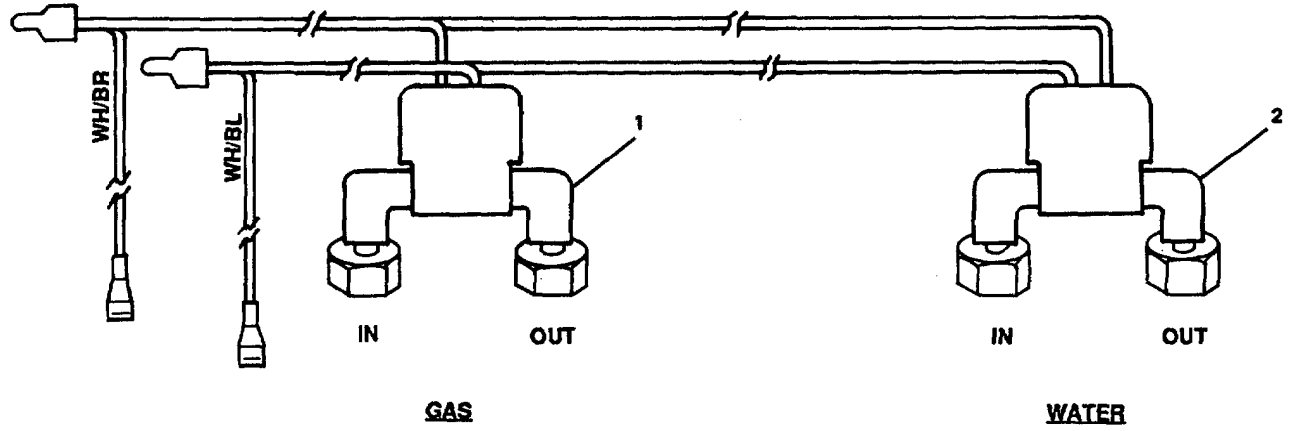

FIGURE 3-56. Gas and Water Solenoid Valves.
- b. Remove access door (7) and panel (8).
- c. Remove cover (5) and panel (6).
- d. Remove panel (10).
- e. Remove fastener cover (19).
- f. Remove spring latch (22).
- g. Remove terminal cover assembly (23).
- h. Remove insulated terminal (24) and terminal bus bar (25).
- i. Remove gas solenoid valve (1, Figure 3-56).
- j. Remove water solenoid valve (2).
- r. Remove capacitor (32) and capacitor bracket (33).
- s. Remove panel (14).
- u. Remove shunt assembly (17).
- v. Remove bus bar (18).
Repair at this level of maintenance is by replacement of: gasket (4, Figure 3-55), gas connector (27), water connector (26), transformer assembly (13), capacitor (32), fixed capacitors (15, 16), gas solenoid valve (1, Figure 3-56), water solenoid (2).
- d. Install panel (14).
- e. Install capacitor bracket (33) and capacitor (32).
- f. Install terminal studs (30, 31) voltage link (29), and terminal board (28).
- g. Install transformer assembly (13).
- h. Install alternating current motor (12).
- i. Install fan blade (11) and fan housing (10).
- j. Install mode switch (21) and handle (20).
- k. Install water connector (26).
- l. Install gas connector (27).
- m. Install water solenoid valve (2, Figure 3-56).
- n. Install gas solenoid valve (1).